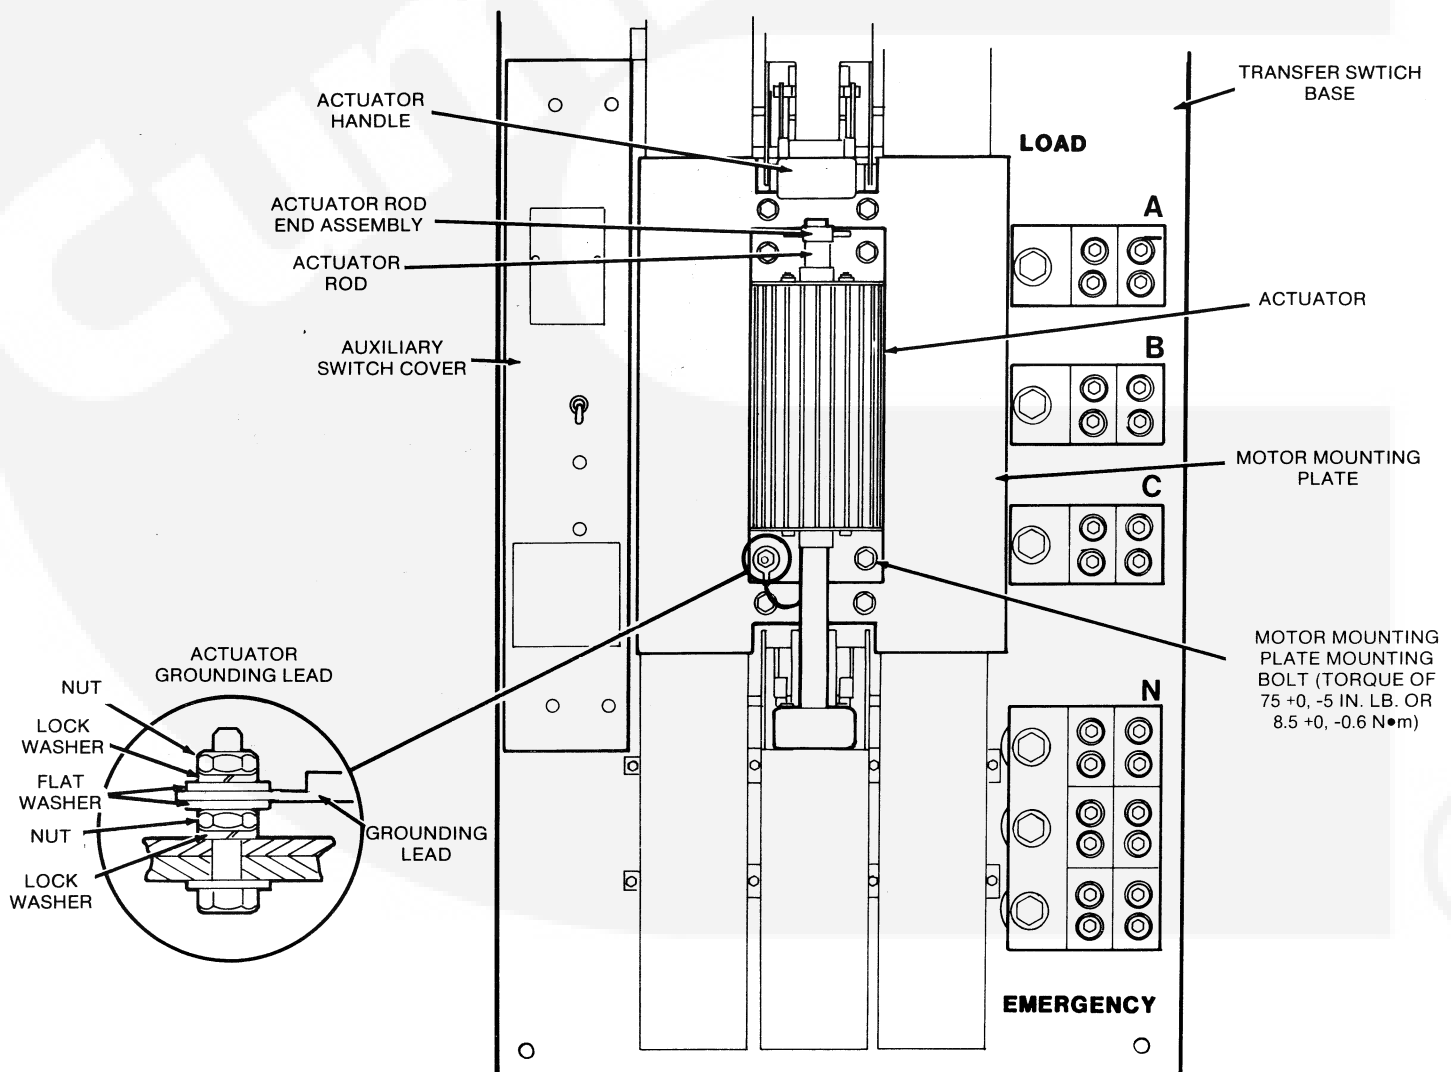

FIGURE 25. TYPICAL 400 THROUGH 1000 AMPERE OT TRANSFER SWITCH
4. Remove the auxiliary switch cover (with actuator disconnect switch and switch nameplate) by taking out the four screws and ET lock washers. See Figure 25.
9. Mount the new actuator (wire leads toward bottom) with the hardware from Step 9. Be sure to connect grounding lead with ring terminal to the one mounting capscrew (Figure 25). Snug mounting capscrews and nuts only at this time.